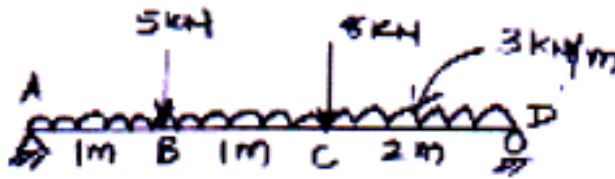

figure 6
**Q7) a)** For a simply supported beam shown in figure 6, find reactions at each end. [5]